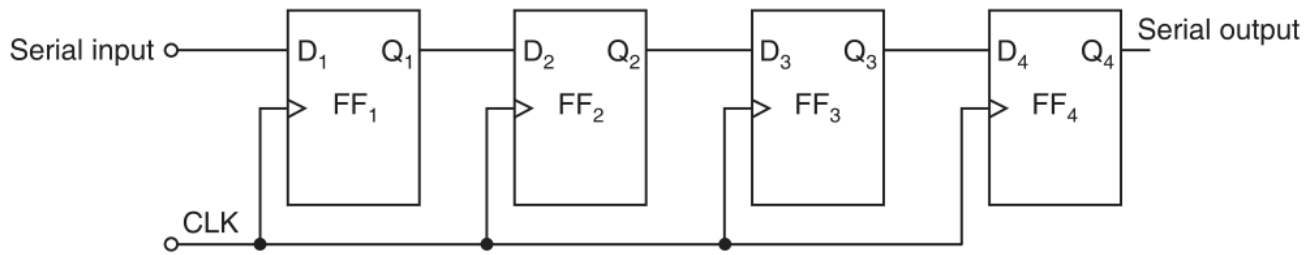

Figure 11.4 4-bit serial-in, serial-out, shift-right, shift register.
1. Serial-In Serial-Out (SISO) (Kumar, p. 640, Figure 11.4)